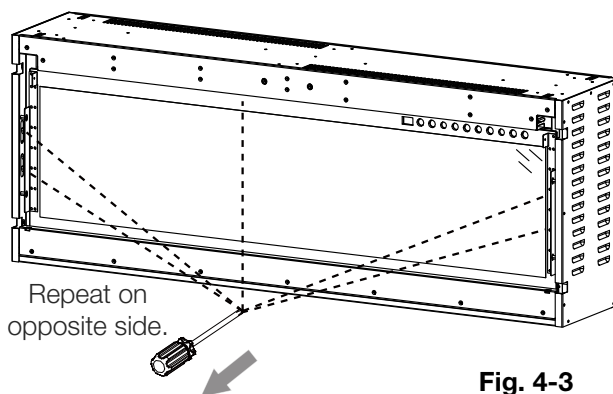

Fig. 4-3
- Remove the 5 screws holding the front glass in place (**Fig. 4-3**).